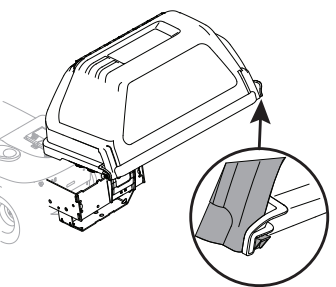

Figure 16
7. Swing the upper grass catcher cover down to close the attachment. Push in on the rear right-side and rear left-side tabs and lock them into place under the notches on each side. Ensure a secure, snug fit. See Figure 16.